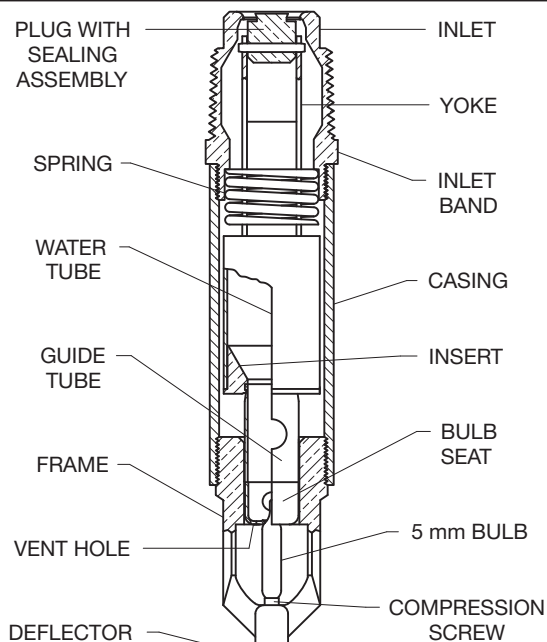

FIGURE 1
When TYCO Series DS-1 5.6K Pendent, Upright, and Horizontal Sidewall, Standard Response, Standard Coverage Dry-type Sprinklers are in service, water is prevented from entering the assembly by the Plug with Sealing Assembly (see Figure 1) in the Inlet of the sprinkler.
- a pipe wrench on the Inlet Band or the Casing (see Figure 1)
A Vent Hole is provided in the Bulb Seat (see Figure 1) to indicate if the Dry Sprinkler is remaining dry. Evidence of leakage from the Vent Hole indicates potential leakage past the Inlet seal and the need to remove the sprinkler to determine the cause of leakage; for example, an improper installation or an ice plug. Close the fire protection system control valve and drain the system before removing the sprinkler.